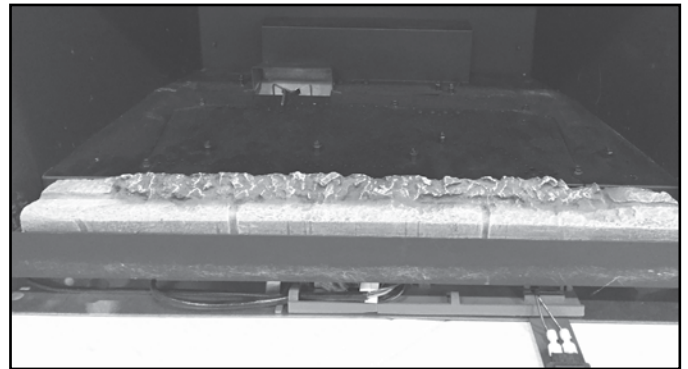

Figure 5
5. Slide the component tray back into the unit. See Figure 5.